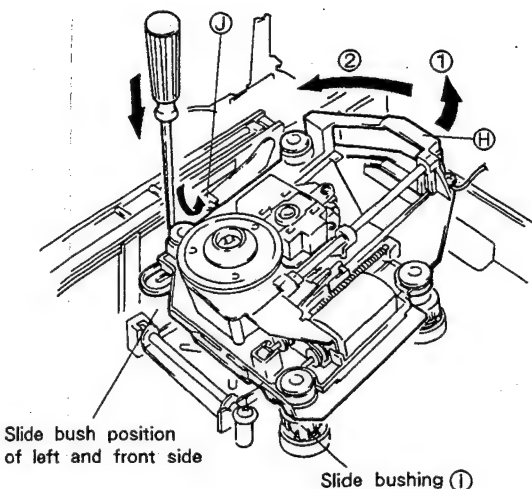

Fig. 2-4
- ④ Push the slide bushing at the front left with a thin implement such as a ⊖ screwdriver (Fig. 2-4).
- ⑤ Pull up the rear side (H) of the servo mechanism assembly. (Arrow ① in Fig. 2-4)
- ⑥ To release the engagement at section (J) of the servo mechanism assembly, turn the assembly counterclockwise on the slide bushing (I) (Arrow ② in Fig. 2-4)